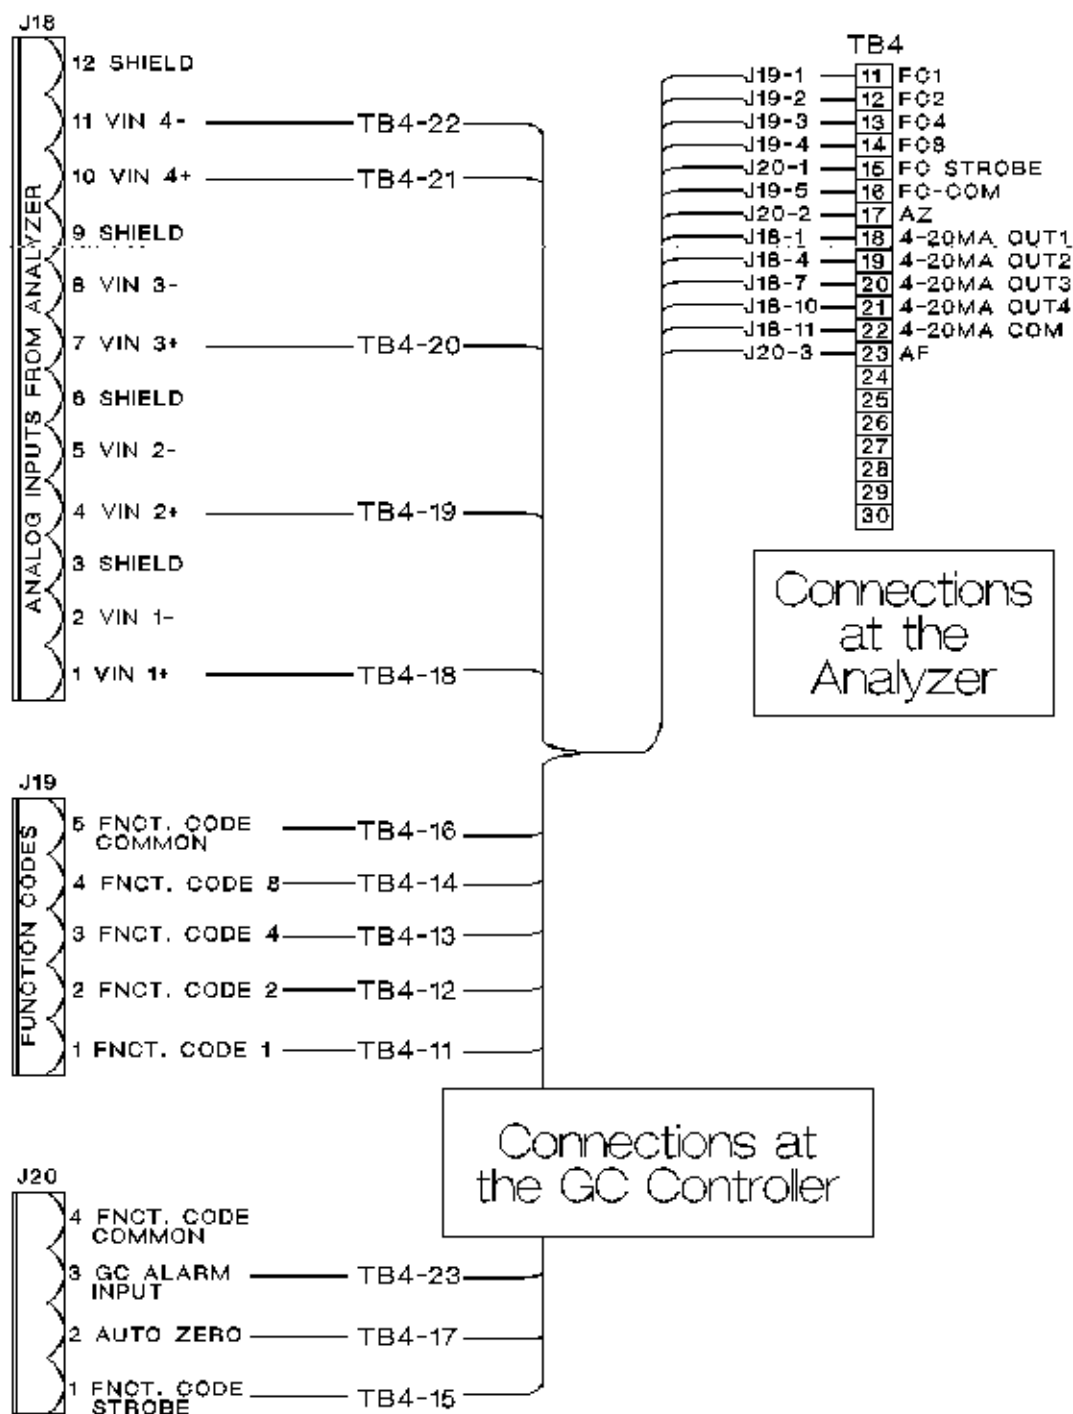

Figure 3-5. Analyzer and GC Controller Interconnect Leads
6. With the Analyzer TB-4 now exposed, connect thirteen of the Interconnect Cable's fifteen leads to terminals 11 through 23. See Table 3-1 and Figure 3-5 for purposes and destinations of leads. Also see "CAUTION", step (6).
7. Access the GC Controller's Terminal Board for Field Wiring (TB), and connect the other leads of the Interconnect Cable to the GC Controller's TB (see instructions in Section 3.4.2, "Controller-Analyzer Wiring" on page 35). Ensure that the connections correspond to those listed in Table 3-1 and Figure 3-5.